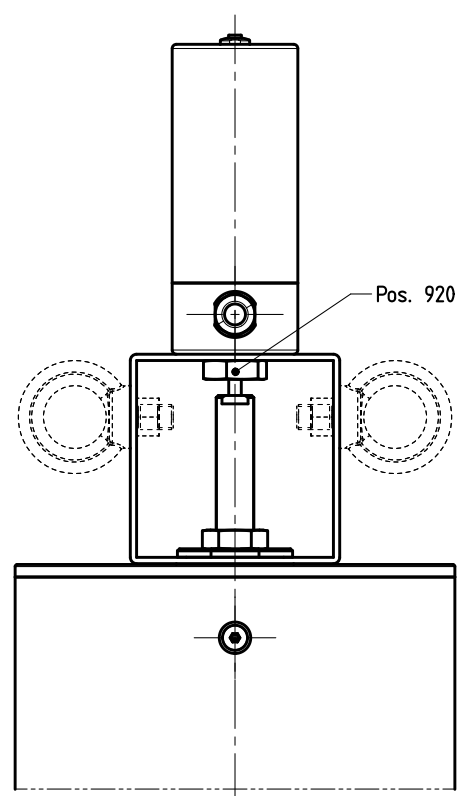

Figure 19: Design of travel stop and actual-position feedback unit
8. Place the limit switch box on the fixing plate [188]. Apply one drop of Loctite 243 to the thread of the fastening screw [900.2] and tighten the screw with a screwdriver (Fig. 19).